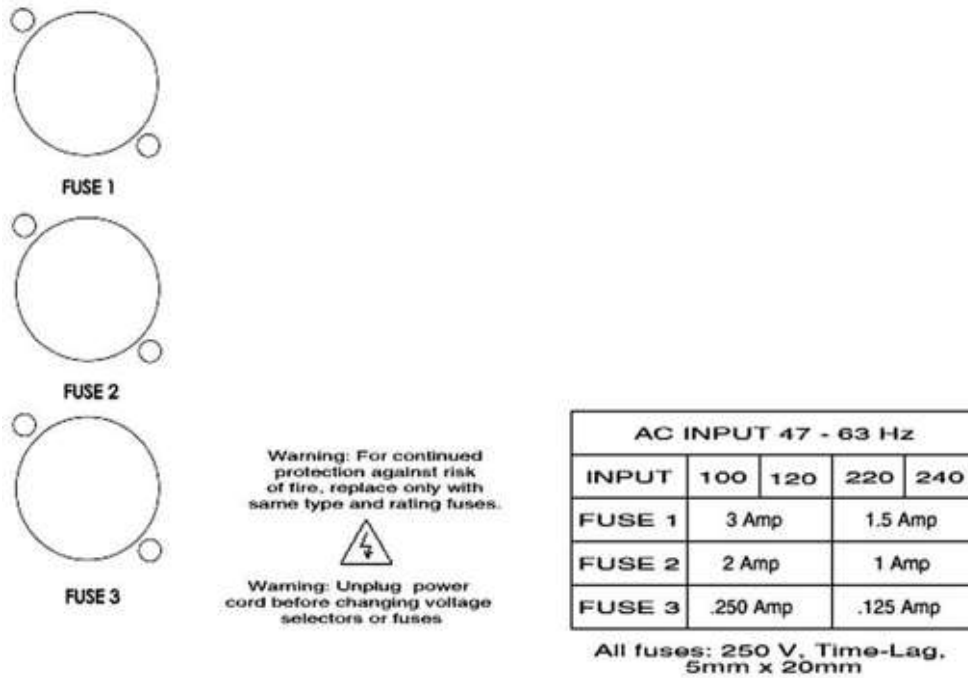

Figure 4.7 Fuses on back of MFP-3D™ Controller (Bipolar controllers and High Voltage Bipolar controllers have four fuses)
2. Determine the appropriate settings for your input voltage. See Figure 4.7 and the diagram on the back of the MFP-3D™ Controller show a table of fuse settings for all supported voltages.